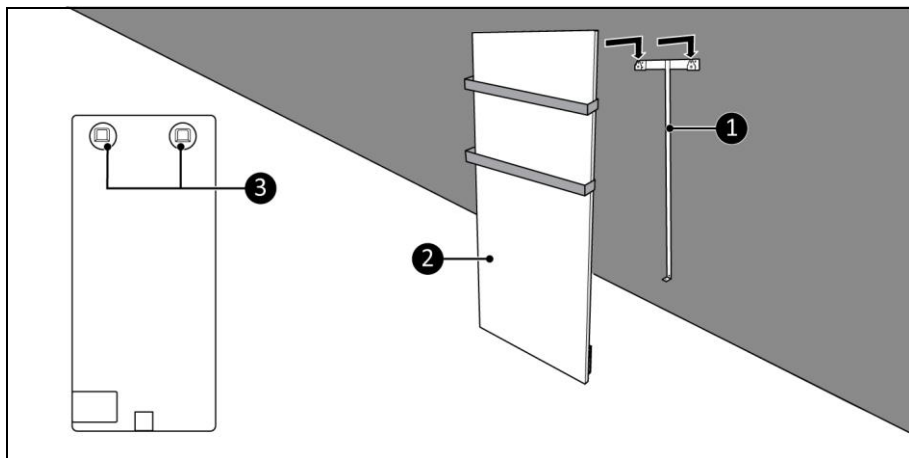

Figure 9
11. Place the device brackets (Figure 9, pos. 3) over the wall bracket (Figure 9, pos. 1).
12. Slide the device (Figure 9, pos. 2) into the openings of the wall bracket.